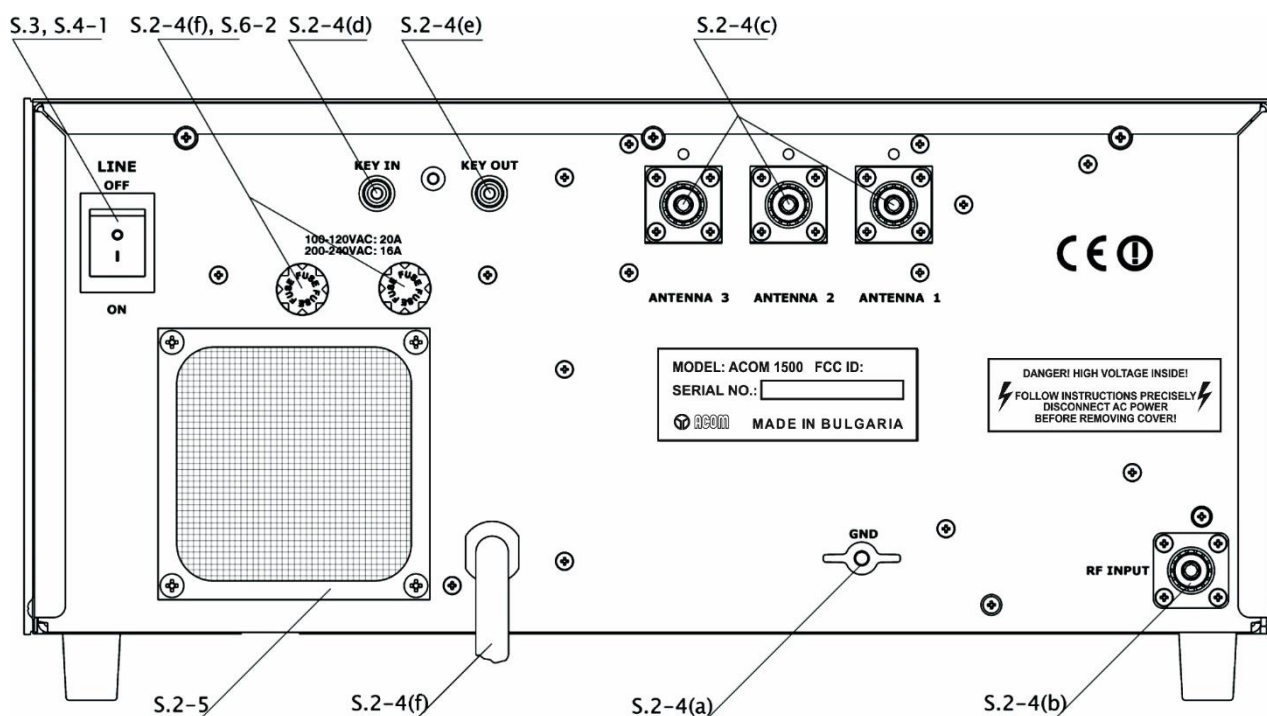

Figure 2-1 Connections
- a) First, connect the ground stud of the amplifier (on the rear panel, marked GND) to the station's grounding system (see **Figure 2-1 Connections**).
This fan (see **Figure 2-1 Connections**) is not necessary in SSB and CW modes, or in continuous carrier modes (RTTY, SSTV etc.) with a maximum carrier-down time of 15 minutes and a subsequent pause of 3 minutes.
After following all instructions in Section 2 INSTALLATION, you may turn ON the main power switch marked "LINE" on the rear panel (see Figure 2-1 Connections). The LED indicator above the red ON/OFF button located on the front panel must light red and an inscription "ACOM1500" will appear on the display (see Figure 3-1 ACOM 1500 Display and Control):